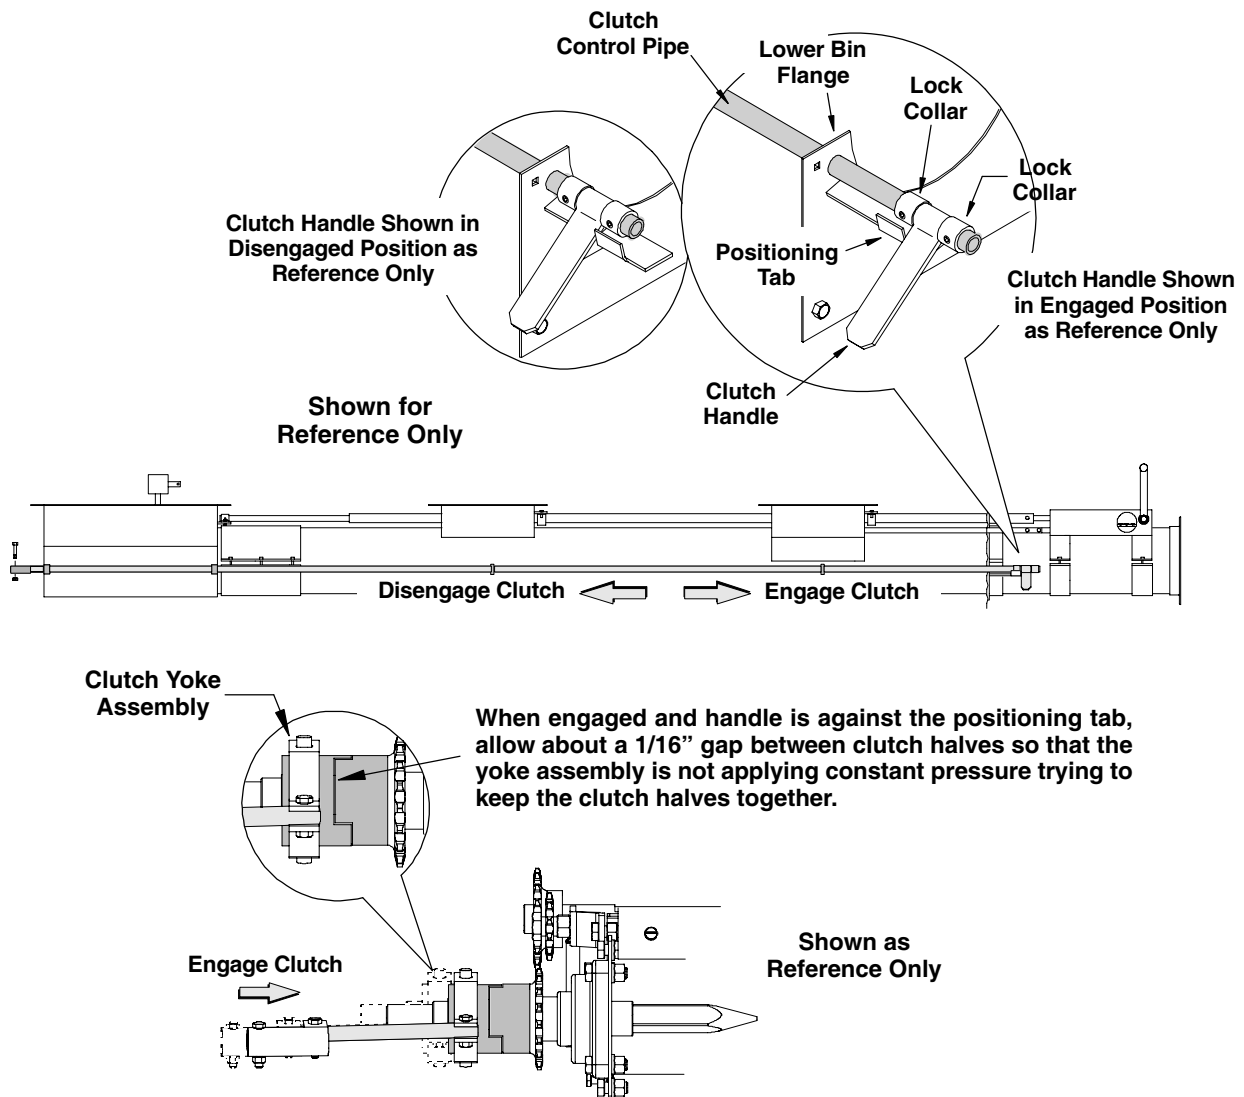

FIG. 20
10. Attach the clutch control handle to the opposite end of the control rod by using a lock collar on both sides of the handle (See Fig. 20). Pull clutch control rod to fully engage the clutch in the center well, then position the handle on the outside of the positioning lock tab and tighten the lock collars on both sides of the handle. Leave about a 1/16" gap between the two clutch halves to prevent pressure on the clutch yoke assembly (See illustration below).